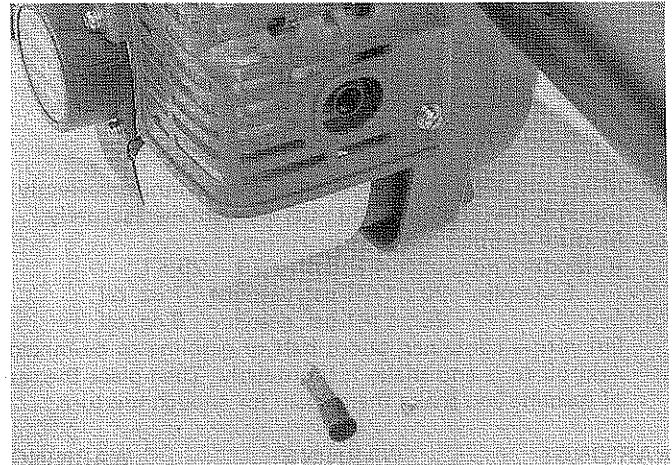

Figure 7
- Carbon built up in the exhaust port will cause power loss or overheat of engine. Carbon deposits at the muffler flange area must be removed with a piece of wood. (Figure 7)
(Spark arrester is removed as shown figure 7.)